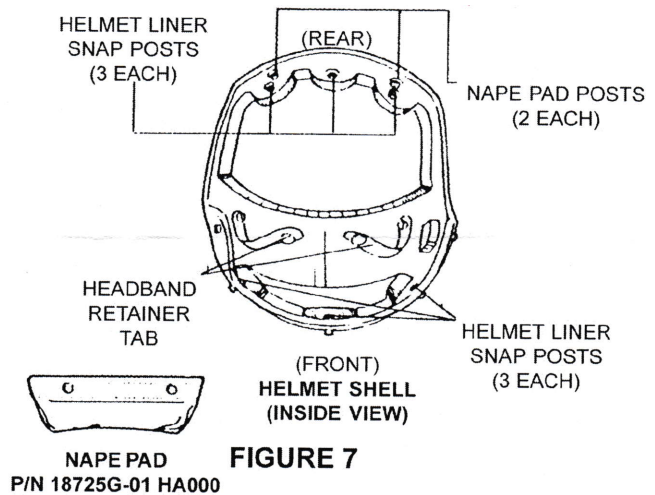

FIGURE 7
2. One at a time, loop each headband retainer tab around headset headband and snap retainer tab together (See Figure 7 for retainer tab locations).
3. Align and engage three snap sockets on front of helmet liner and headset assembly with three snap posts on front of helmet shell (See Figures 7 & 8).
4. Align and engage three snap sockets on rear of helmet liner and headset assembly with three snap posts on rear of helmet shell (See Figures 7 & 8).